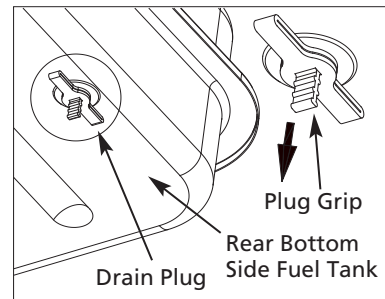

Figure 9 - Drain Plug Removal
- Remove drain plug from rear bottom side of fuel tank by pulling plug grip downward and drain. See Figure 9.